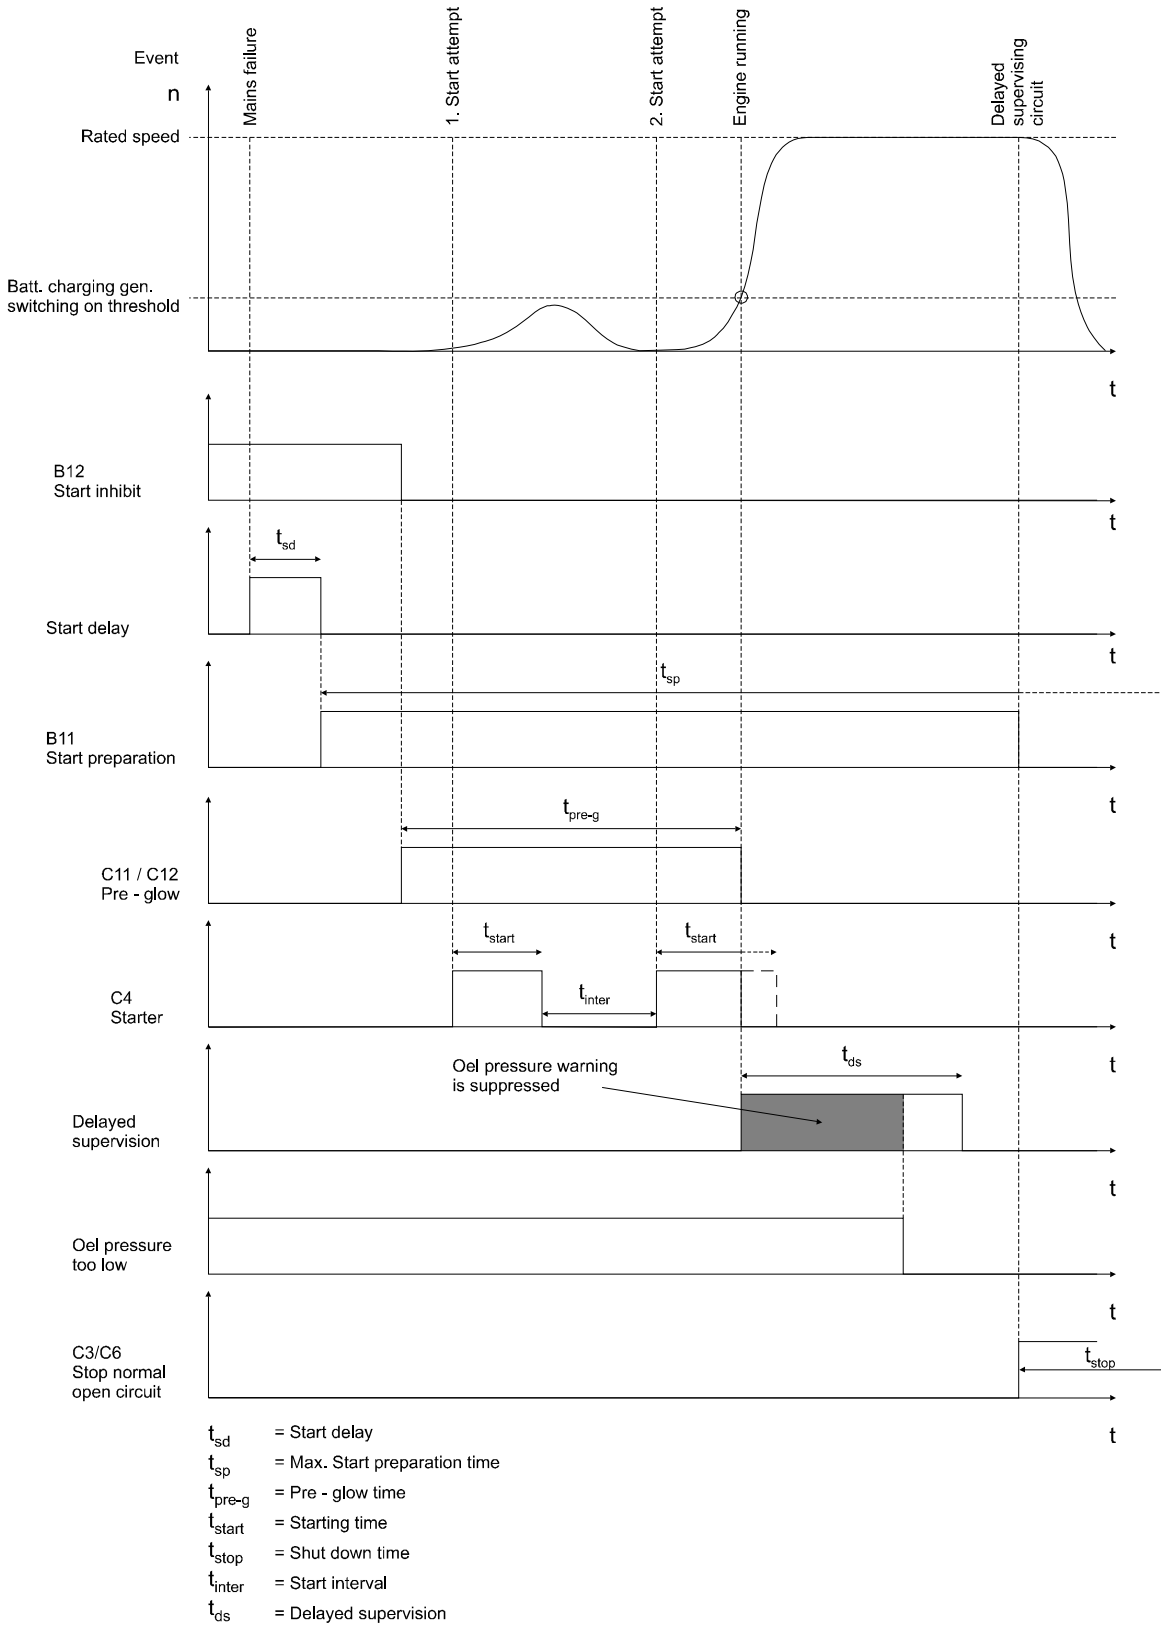

Figure 5.1: Start cycle
Prior to the starting procedure for some gensets certain preparations are necessary, e.g. switching on of pre-lubrication pumps or opening of jalousies. If this process should function automatically, the start has to be blocked for this time (output B12). Blocking of the start is indicated by slowly flashing LED ⑤. After the start delay time t_{sd} has elapsed, L+ is connected to output B11 see Figure 5.1. For control of the pre-lubrication pump or the jalousies for instance, an external aux. relay can be connected to this output. Check-back contacts (pressure supervision etc.) or limiting switch (jalousies) have to be interlinked as NC contacts parallel in the start blocking chain (B12). Only after the start blocking chain is opened, output C11/C12 (pre-glowing) is activated and the start relay at output C4 energized after pre-glowing time t_{preg} has elapsed. After a successful start, the time circuit "Delayed Supervision" (t_{ds}) elapses. Any alarms which are delayed supervised, e.g. "Oil Pressure Too Low", are suppressed during this time (t_{ds}). This, however, does not apply to direct shut-down alarms.